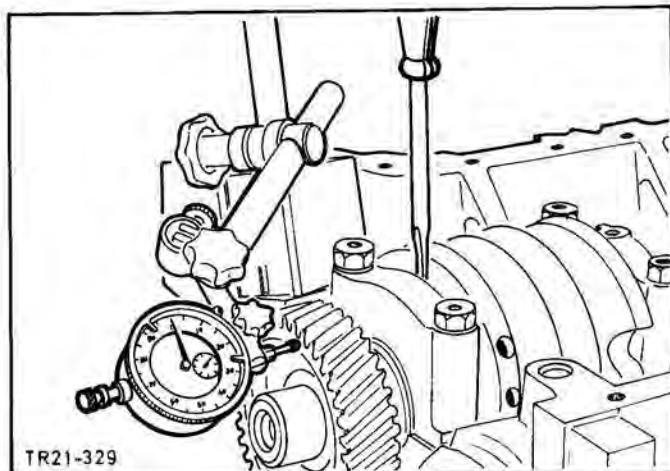

Fig.53. Check crankshaft end float.
37. Check crankshaft end float with a dial indicator, Fig.53, (see Technical Data).